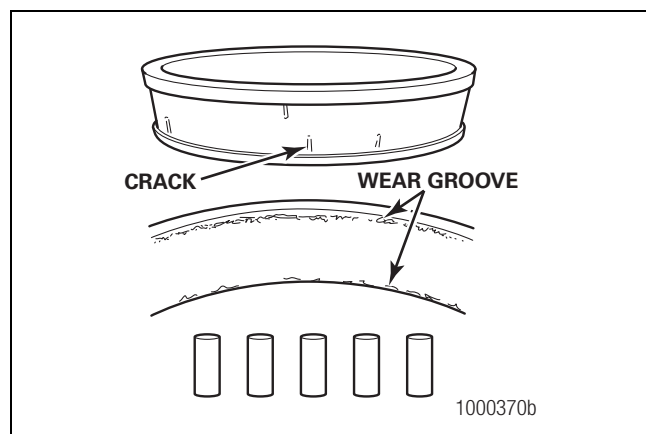

Figure 5.8
- There is a visible roller groove in the cup or the cone inner race surfaces. The groove can be seen at the small or large diameter end of both parts. Figure 5.8.
- There are deep cracks or breaks in the cup, the cone inner race or the roller surfaces. Figure 5.8.